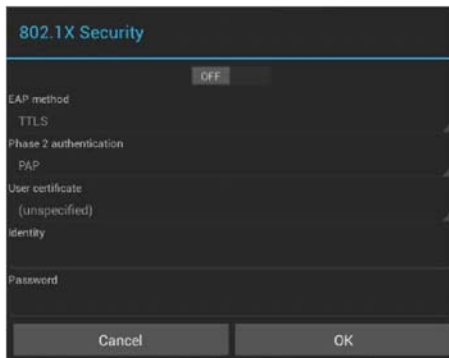

FIG. 61 802.1x Security window (OFF)
- From the Ethernet page (either tab), select 802.1x Security to open the 802.1x Security window (FIG. 61).